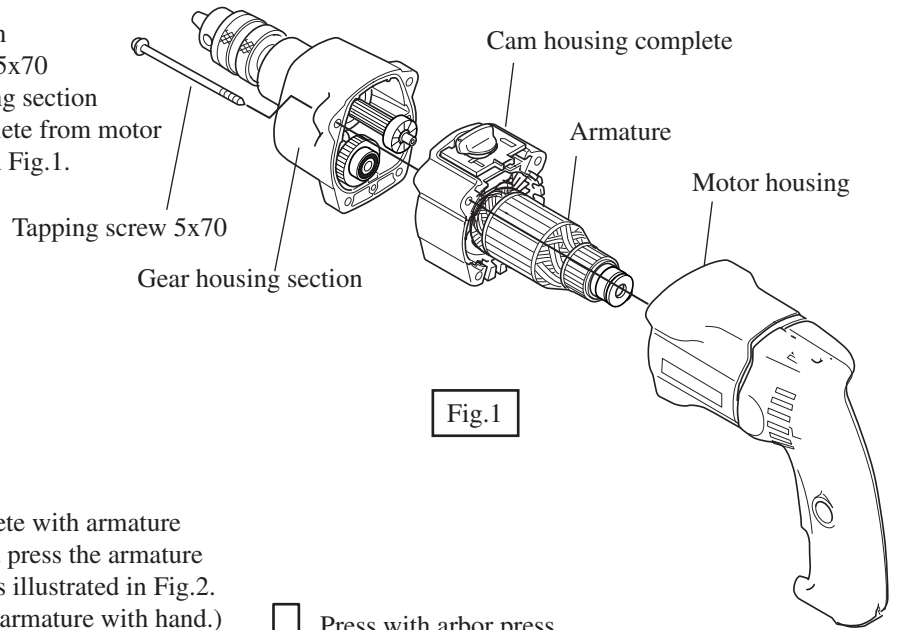

Fig.1
- (1) Take off tapping screw 5x70 and remove gear housing section and cam housing complete from motor housing as illustrated in Fig.1.